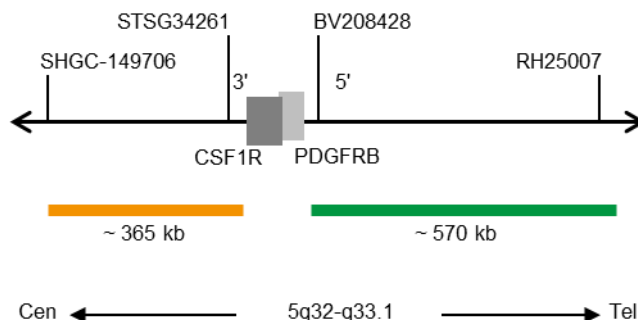

Fig. 1: SPEC CSF1R Probe map (not to scale)
- ZyGreen (excitation 503 nm/emission 528 nm) labeled polynucleotides (~10.0 ng/μl), which target sequences mapping in 5q32-q33.1* (chr5:149,548,518-150,118,449) distal to the CSF1R breakpoint region (see Fig. 1).
- ZyOrange (excitation 547 nm/emission 572 nm) labeled polynucleotides (~4.5 ng/μl), which target sequences mapping in 5q32* (chr5:149,058,515-149,421,081) proximal to the CSF1R breakpoint region (see Fig. 1).